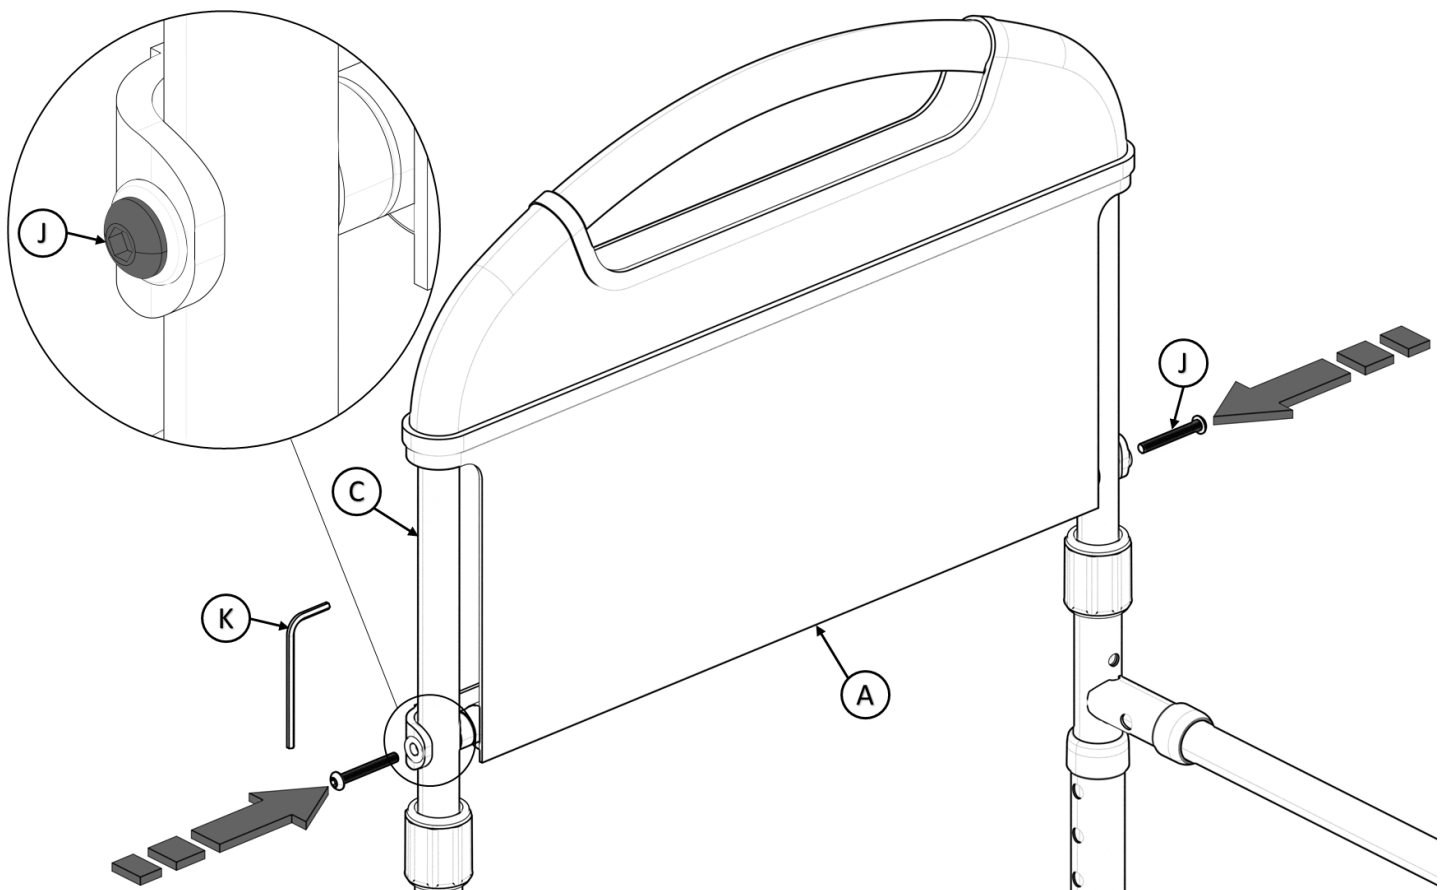

FIGURE 5
5. Align the pouch tabs and the metal tube that is attached to **A** with the side holes of the Handle (**C**); Secure with bolts (**J**) using the tool provided (**K**) as shown in *FIGURE 5*.